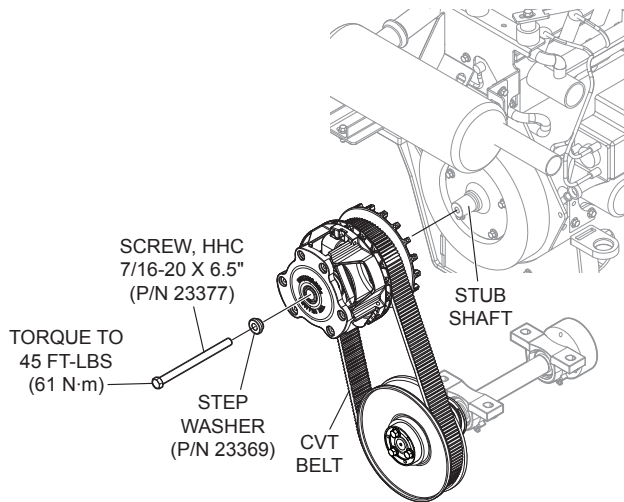

Figure 22. Installing Clutch Assembly
2. Once CVT belt has been placed into upper pulley grooves, mount clutch assembly onto stub shaft using 7/16-20 × 6.5" clutch retaining screw (Figure 22).
4. Apply primer (Loctite 7649, P/N 32441) then apply Blue Loctite #242 (P/N 1477) to clutch retaining screw. See Figure 22.